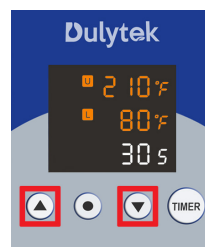

Fig. 2
2. Press Up **▲** or Down **▼** buttons to select the desired temperature (Fig. 2). The selected temperature is shown on the upper **U** line of the display. Tip: Enter the temperature either in °F or °C; you will be able to select the temperature scale later.